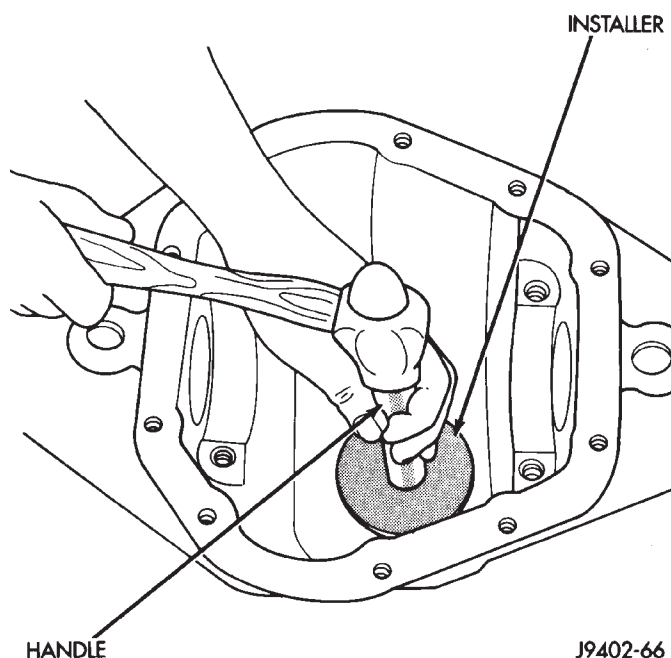

Fig. 29 Pinion Rear Bearing Cup Installation
(1) Apply Mopar® Door Ease, or equivalent, stick lubricant to outside surface of bearing cup.
(2) Install the pinion rear bearing cup with Installer D-146 and Driver Handle C-4171 (Fig. 29). Ensure cup is correctly seated.